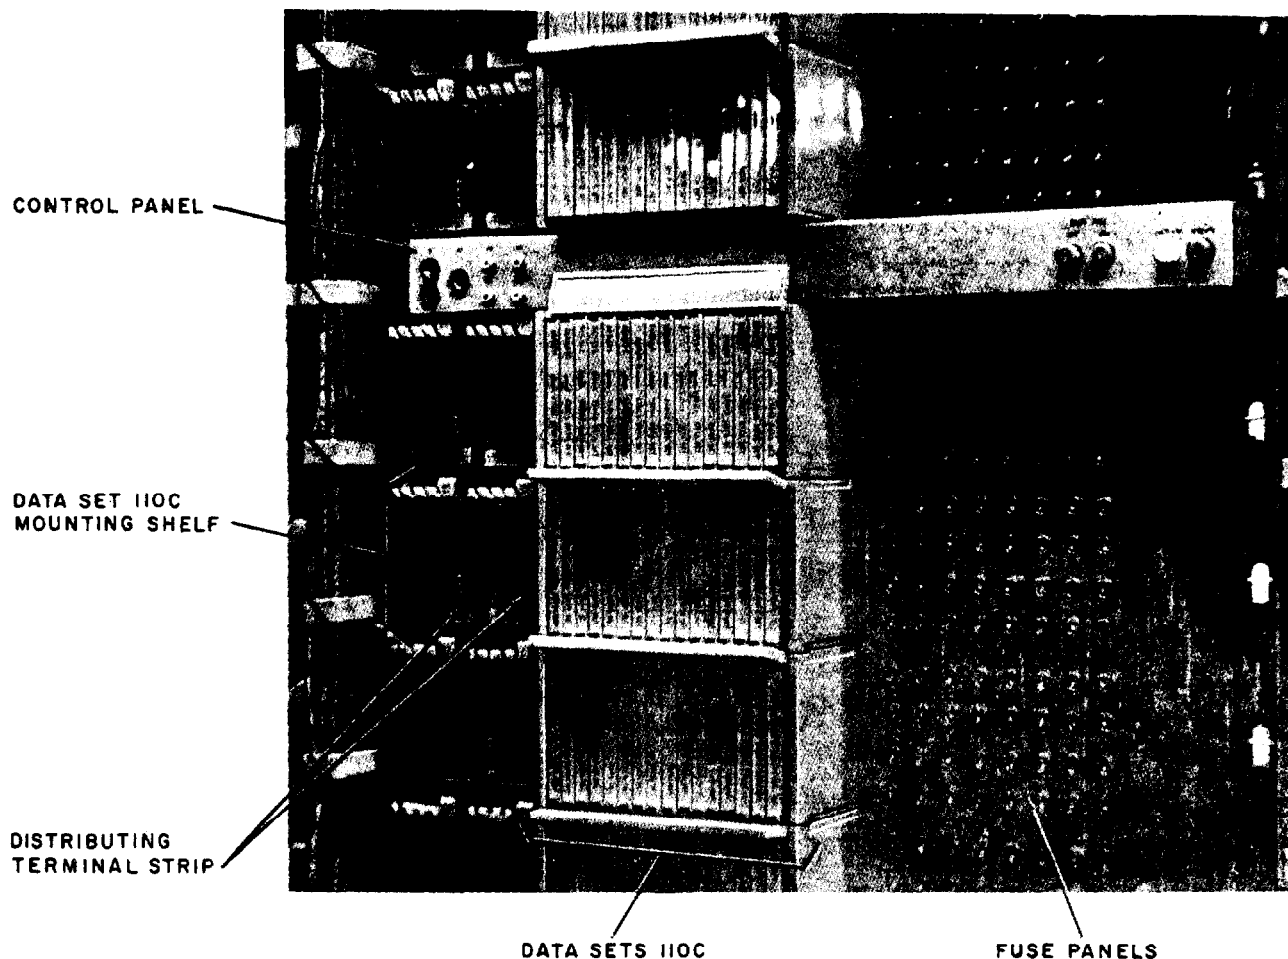

Fig. 4—Mounting Shelf For Data Set 110C
2.03 Each mounting shelf (see Fig. 4) will mount 16 data sets. The mounting positions of the data sets on the shelf will be numbered 0 to 15 or as prescribed by the local telephone company.
2.04 Each shelf is equipped with a +24 volt fuse and a -48 volt fuse for each data set that can be mounted on the shelf. (Refer to Fig. 4 for the fuse arrangement.)
2.06 Each shelf is also equipped with an M relay (see Fig. 4). The M relay provides the connections between the DM leads (refer to 1.08 for description) of the data set mounting positions on the shelf and a 16-pair bus circuit in the Automatic Data and Channel Test Frame (ADACT) of the No. 1 ESS-ADF office. The ADACT is where distortion measurements are made on circuits in the ESS-ADF office.
3.02 The data signals are supplied from the DCAD to the Data Set 110C via the BA lead and are transmitted to the Data Set 110B via the send loop leads T and R. To drive the send loop without materially loading the DCAD, the 110C provides a transistorized circuit which is the transmitter as shown in Fig. 4.